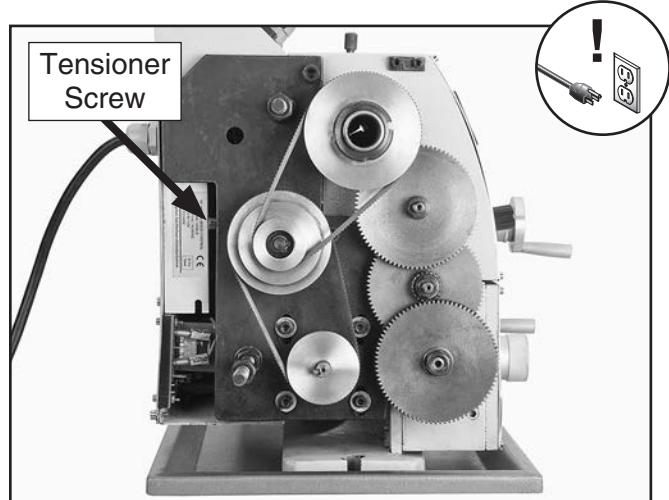

Figure 57. Location of tensioner screw used for tightening/loosening V-belts when changing belt positions.
3. Loosen tensioner screw (see **Figure 57**) to loosen V-belt tension.